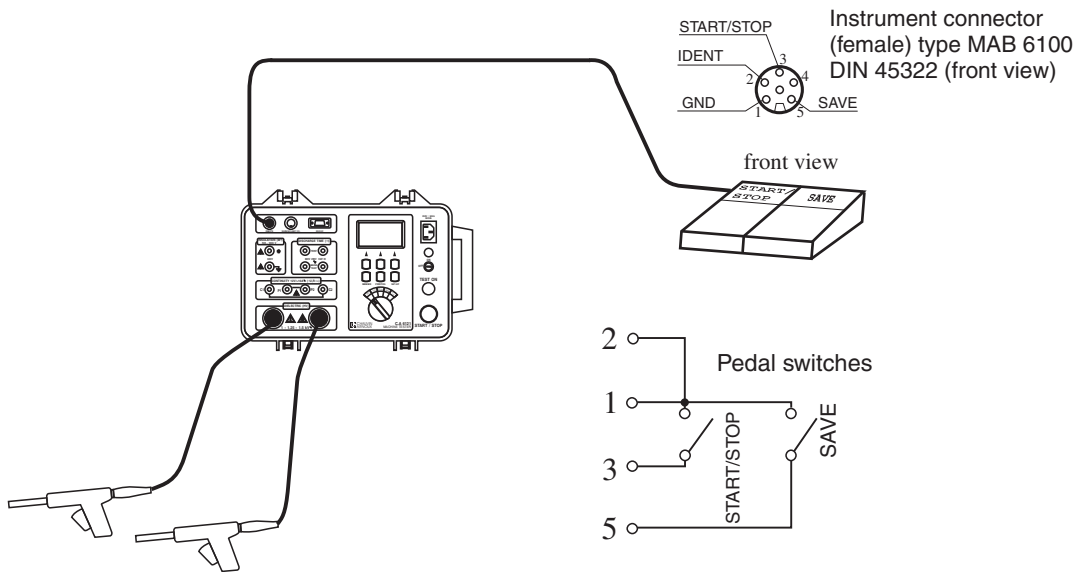

Fig.41. Connection of the remote control pedal to the C.A 6121 MACHINE TESTER
1. Connect the remote control pedal in accordance with fig 41.